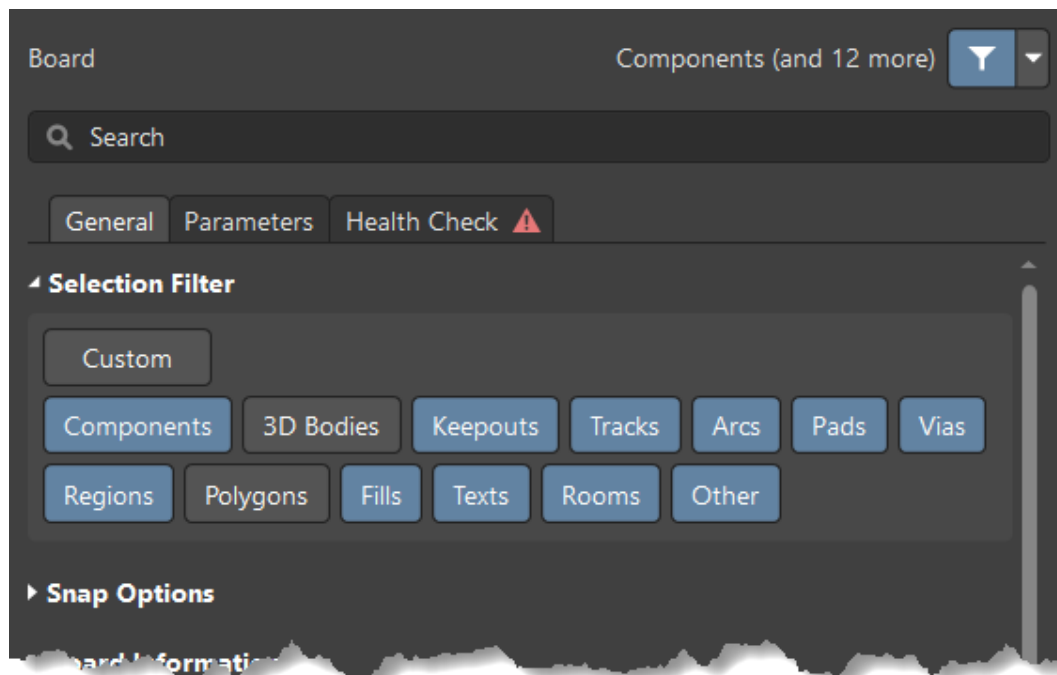

Figure 2. Configuration for the Selection Filter
10. Ensure that the Selection Filter is set as shown in Figure 2 below. The same pre-selection filter can also be accessed from the *Active Bar*.